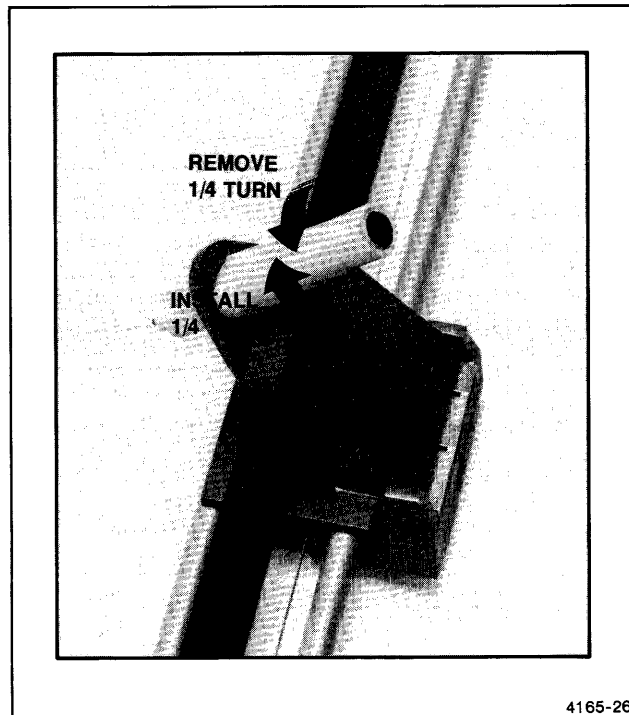

Figure 2-27. Installing and Removing a Pen.
3. Remove the pen (if one is installed) by turning it one-quarter turn counterclockwise. This will align the tabs on the pen with slots on the pen holder (see Figure 2-27).
6. To install a new pen, align the tabs on the pen with the slots on the pen holder and put the pen into the pen holder. Turn the pen one-quarter turn clockwise to lock it into place (see Figure 2-27).